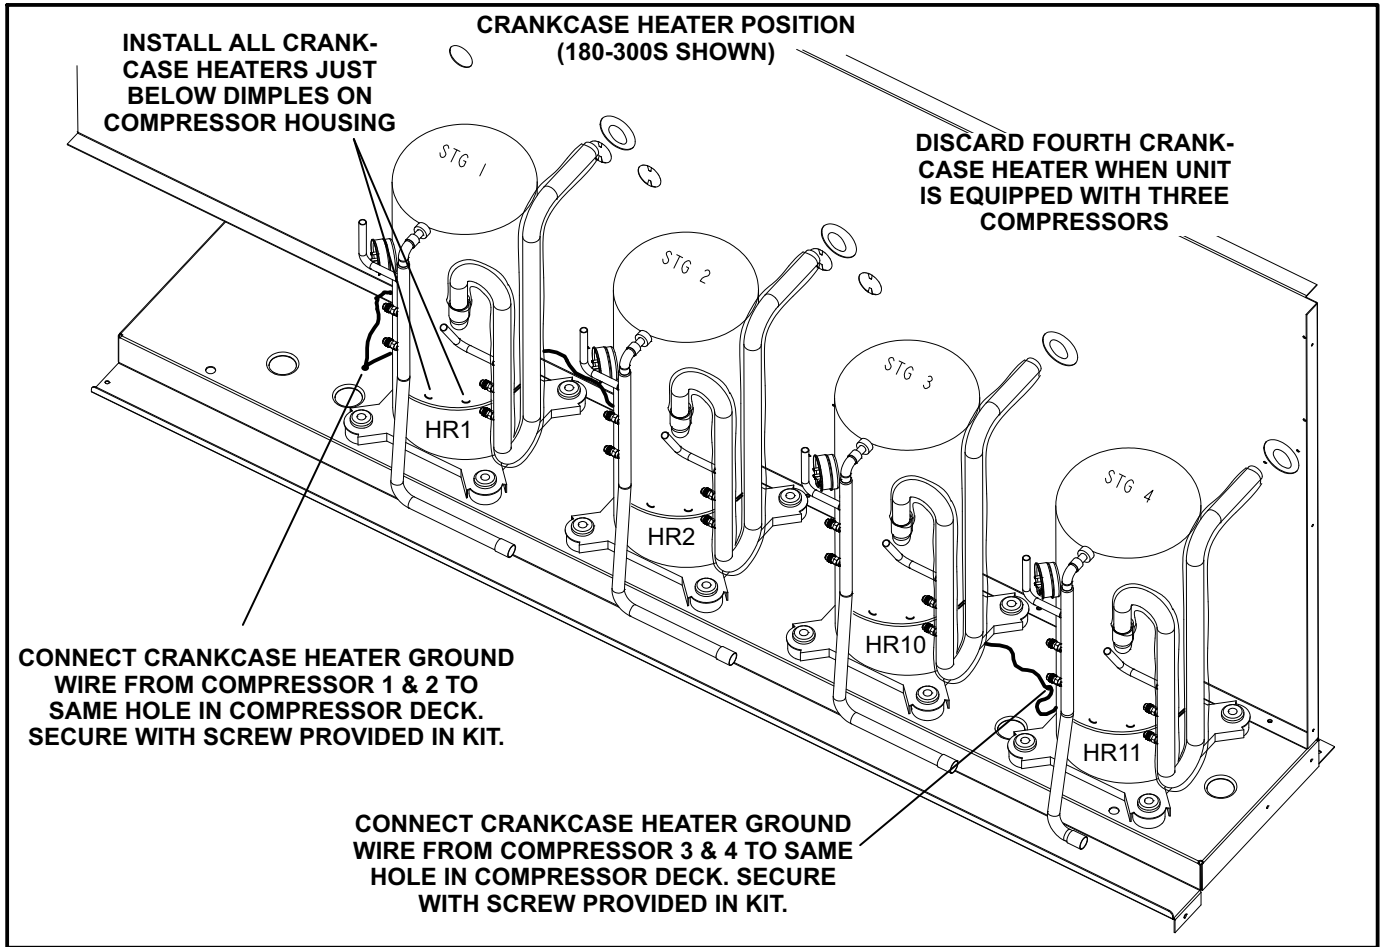
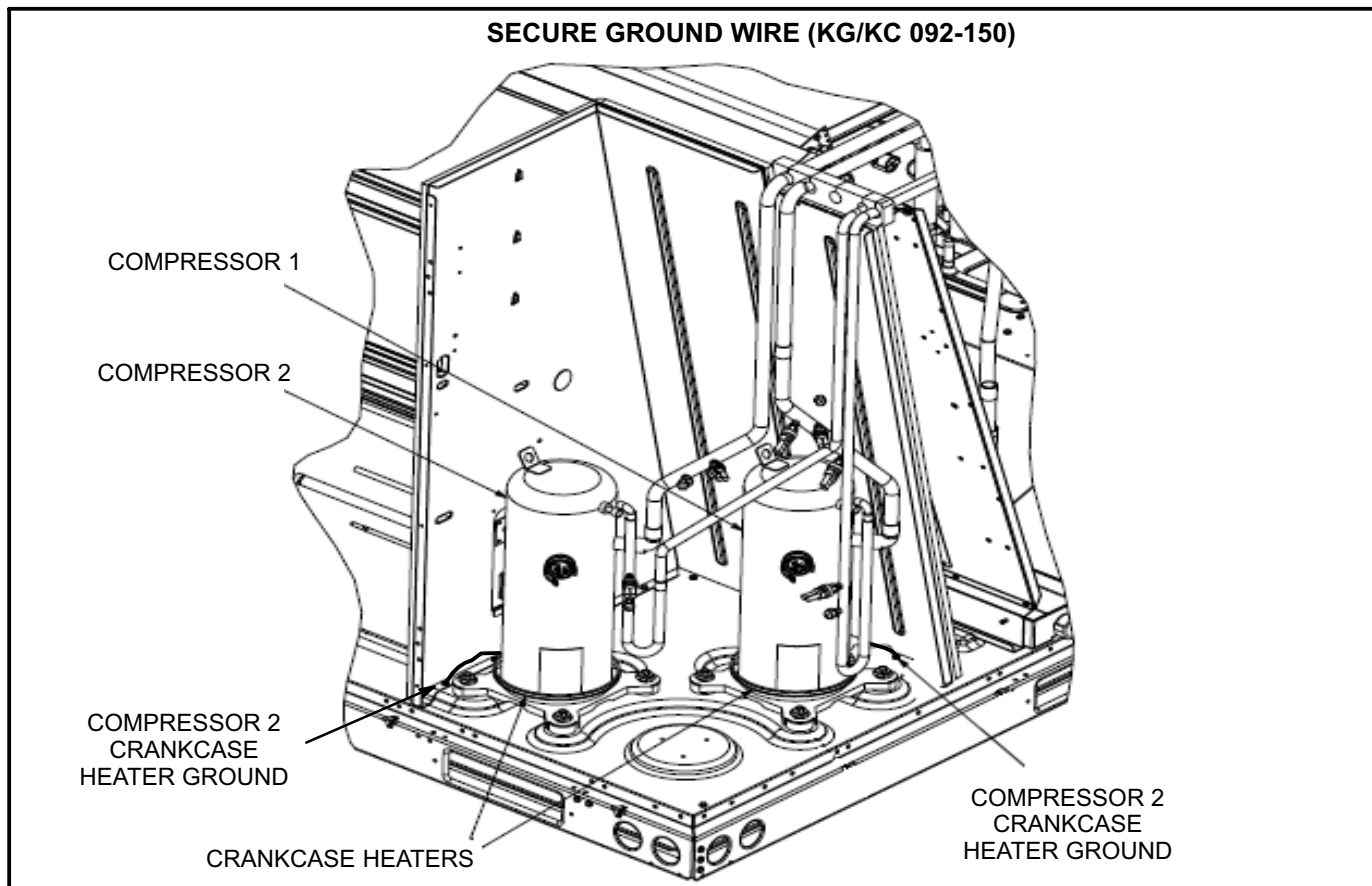

FIGURE 1
FIGURE 8
- 2- Position crankcase heater below dimples on compressors as shown in figure 1. Position belly-band screw over the vertical weld seam on the compressor. Tighten belly-band screw to secure in place.
for 024-074 units, figure 8 for KG/KC 092-150 units, and figure 1 for 180-300S units.